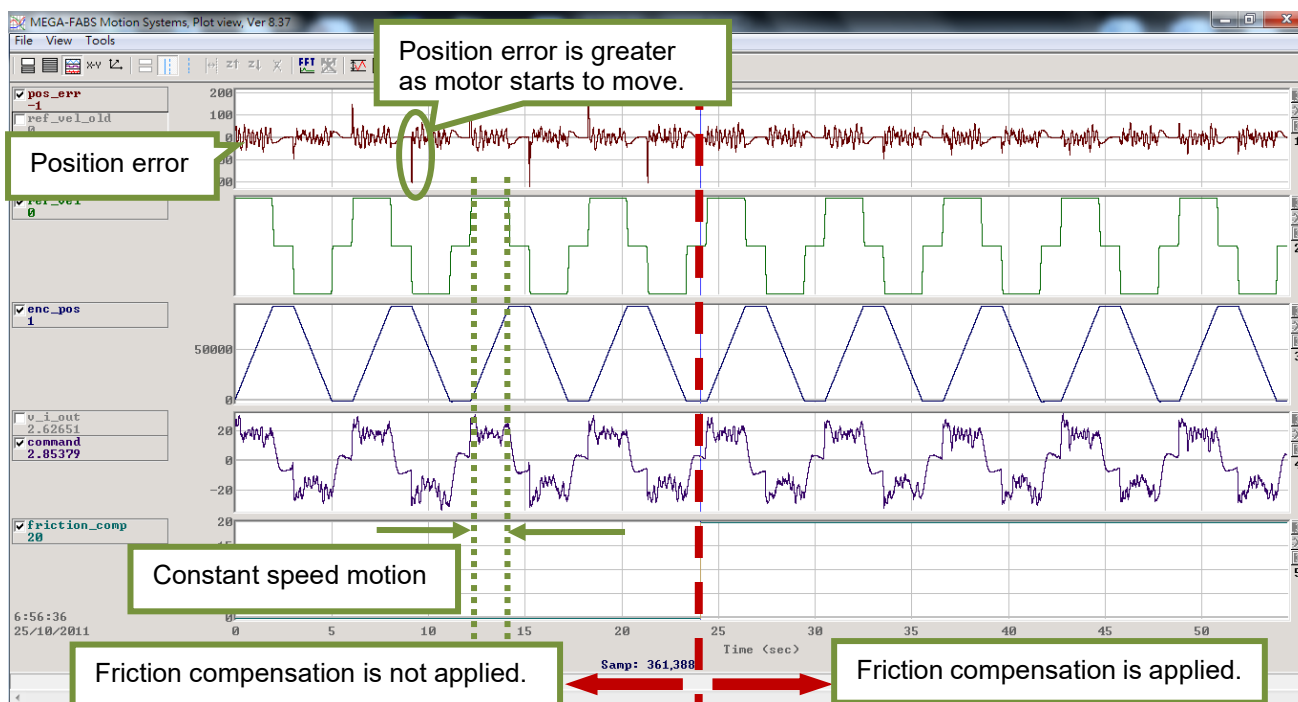

Figure6.6.7.2 Friction compensation
- Step 7: Observe if the position error when the motor starts to move has decreased, as the right part of figure 6.6.7.2. The position error has decreased after friction compensation is applied.